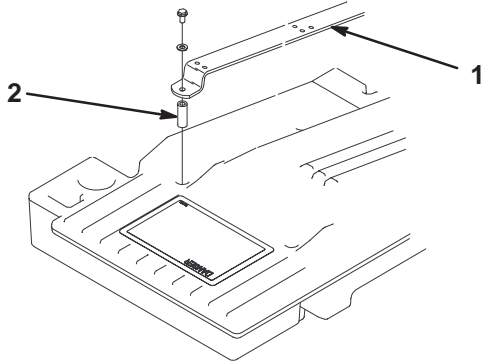

Figure 3
1. Remove the screws, washers, and spacers securing the seat mounting straps to the traction unit frame (Fig. 3).